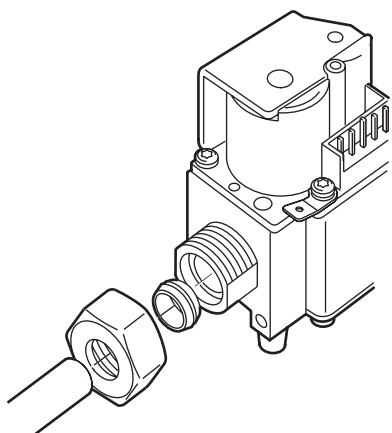

Fig. 5. External thread connection with nut and olive
- With 3/4" nut and olive (see fig. 5.)